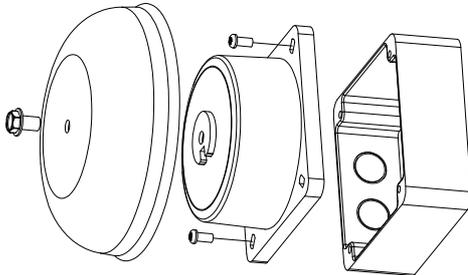

Fig. 1: Bell assembly (indoor type shown)
2. Unscrew the body from the back-box (see Fig. 1).
2. Screw the gong to the body (see Fig. 1).